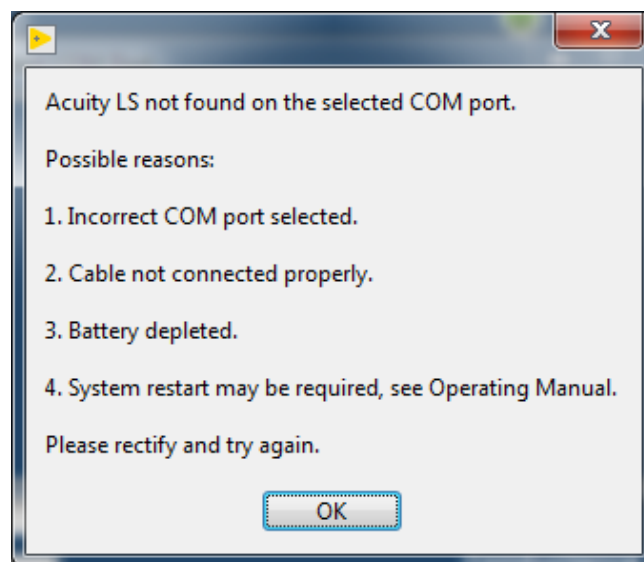

Figure 7. COM port error message.
- b. If the incorrect COM port has been selected, an error message will be displayed along with some troubleshooting instructions (Figure 7).
- i. For item 4 in Figure 7 please refer to "System Restart" in Section 3.